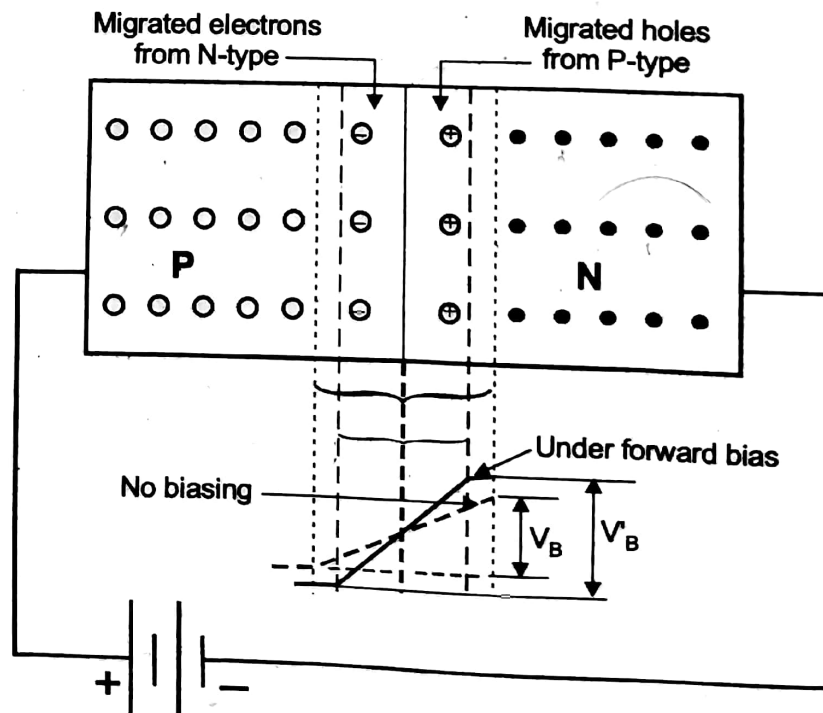

Figure 4.7 Forward biased PN junction
- The positive terminal of a battery connected with P-type semiconductor and the negative terminal connected with N-type semiconductor as shown in the figure 4.7, provides the **forward bias to PN junction**.